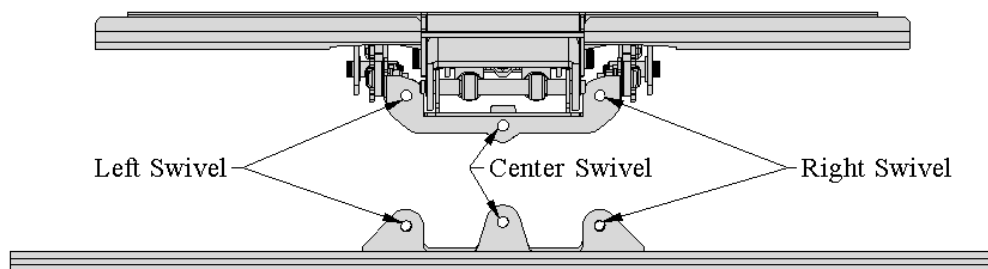

Figure 6 Swivel Holes (Top View of Mount)
1. The Swiveling Hook Plate needs to be attached to the Mount before anything else can be done. Once you have decided which swivel setting would be the best for you, find the corresponding Swivel Holes as shown in Figure 6.